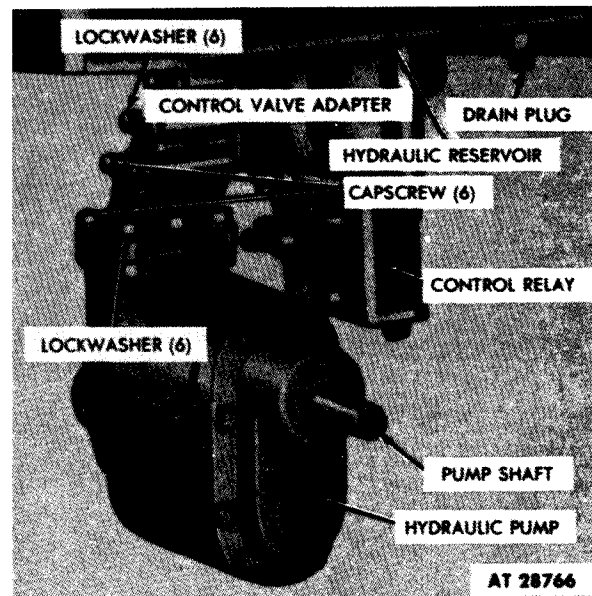

Figure 2-221. Right front view of hydraulic pump mounting.
#### b. Installation (fig. 2-221).
(1) Remove the hydraulic pump (para 2-242).
(2) Remove the six capscrews (fig. 2-221) and
(4) Position the control valve adapter (fig. 2-221) on the control valve assembly, and secure it with six capscrews and lockwashers.
(5) Install the hydraulic pump (para 2-242).